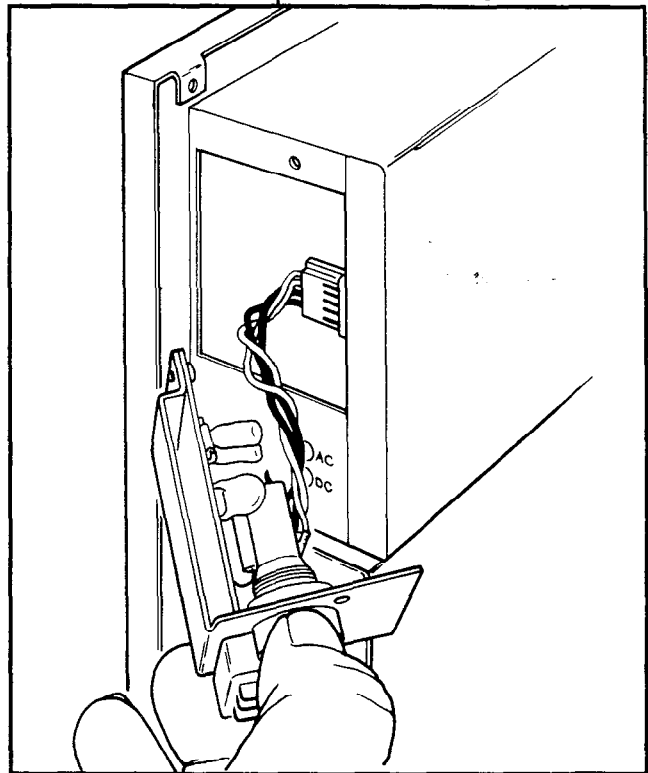

FIGURE 5—HPBU INSTALLATION
04.22 An optional battery back-up unit (HPBU-7) is available. It is a PCB that mounts inside the power supply housing (Figure 5) and is connected to the female 3-prong connector inside the power supply's case. Secure the HPBU with the two provided screws.